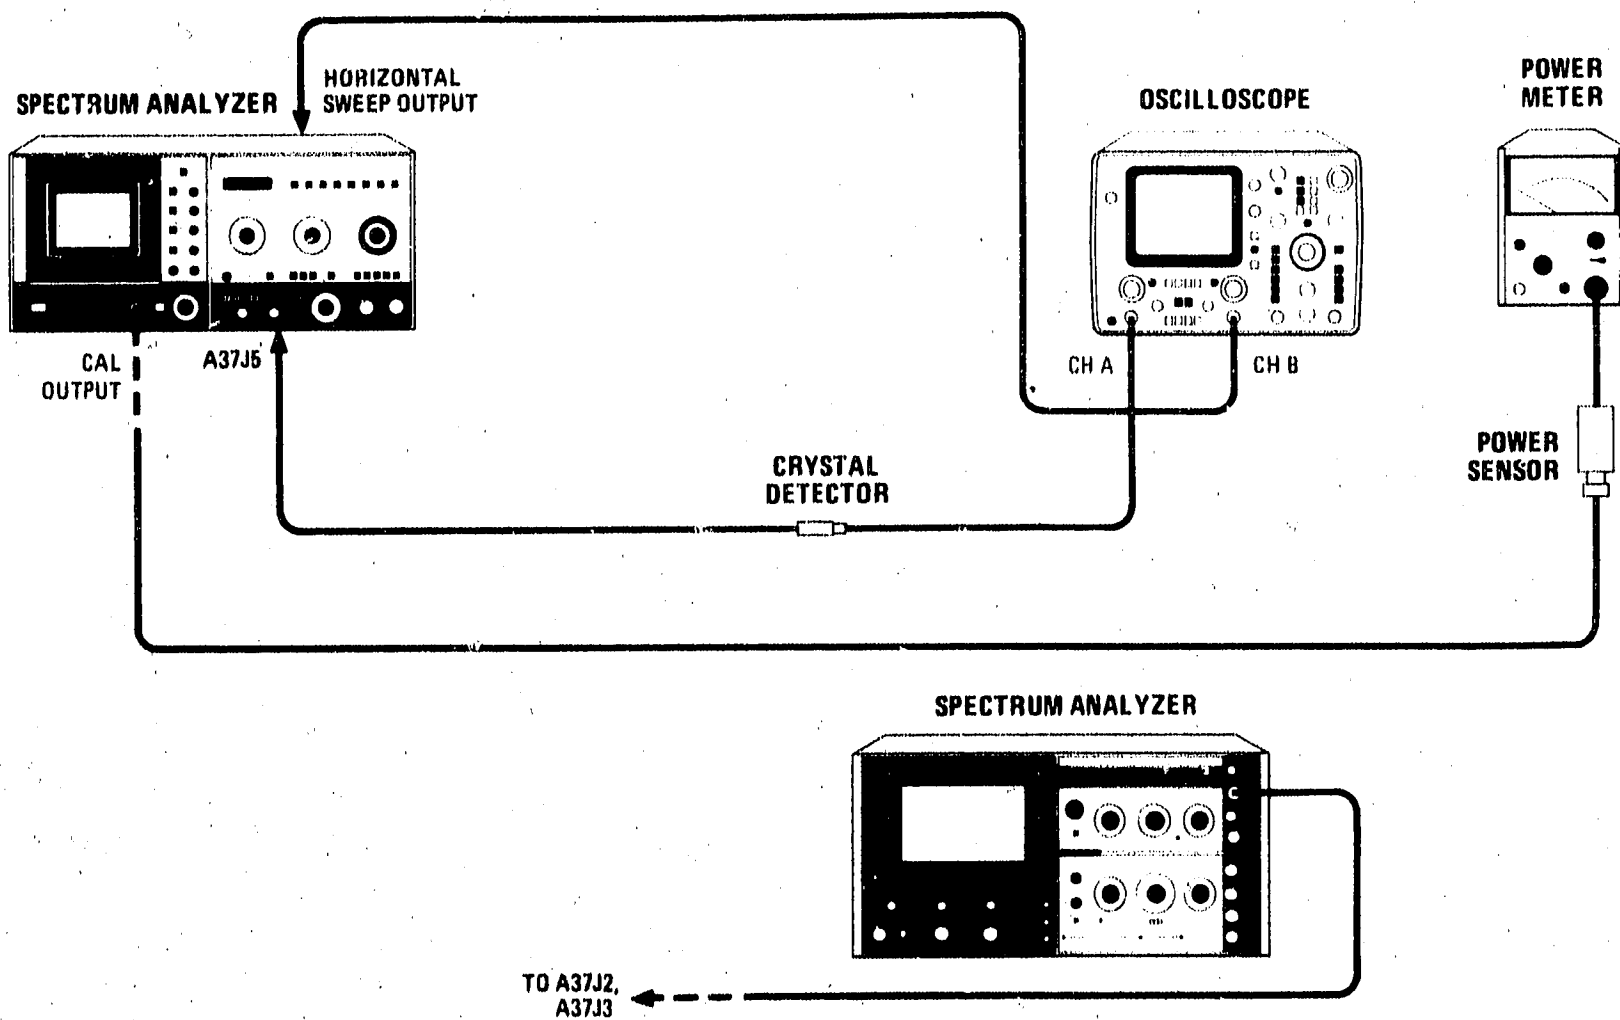

Figure 5-37. Third Converter Adjustment Test Setup
2. Reconnect power cord, set LINE switch ON, and connect equipment as shown in Figure 5-37.